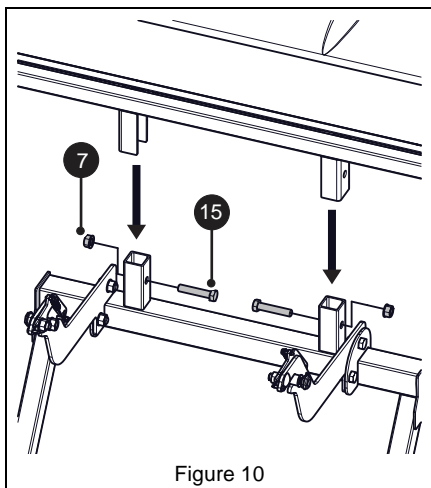

Figure 10
8. Remove bags from bagger. Install bagger frame to bagger post with two 1/2" x 2 1/4" hex bolts (Item 15) and two 1/2" top-lock flange nuts (Item 7). See Figure 10.